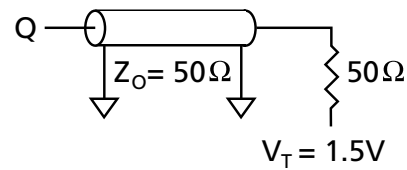

Figure 1
1. Test conditions as specified with the output loading shown in Figure 1 ($V_{DDQ} = +3.3\text{V} +0.3\text{V}/-0.165\text{V}$) unless otherwise noted.
Output load	See Figures 1 and 2